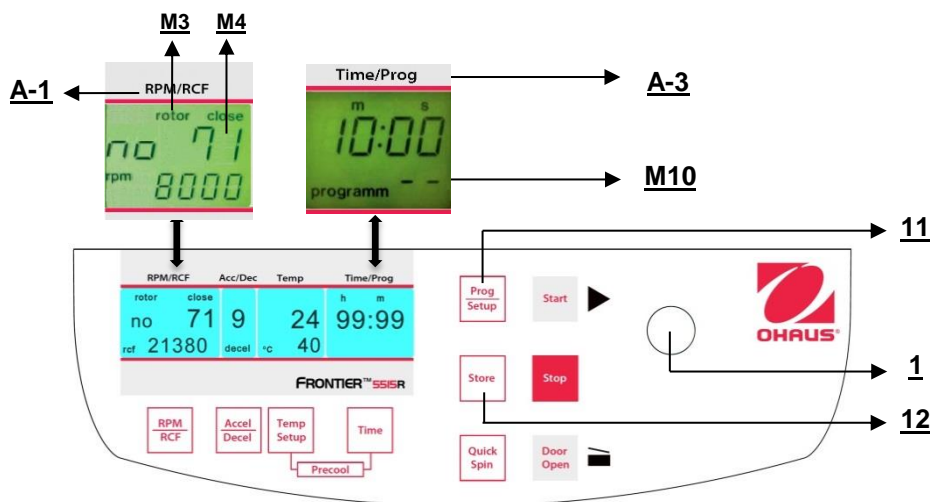

Figure. 25
To recall stored programs press the key **"Prog/Setup"** (11) (refer to figure 25) while the lid is already closed. Inside the display **"Time/Prog"** (A-3), **"programm –"**(M10) appears. The desired program number can be pre-selected with the adjusting knob (1).
To leave the program mode just press the key **"Prog/Setup"** (11) (refer to figure 25). Then inside the display **"Time/Prog"** the word **"programm"** appears.